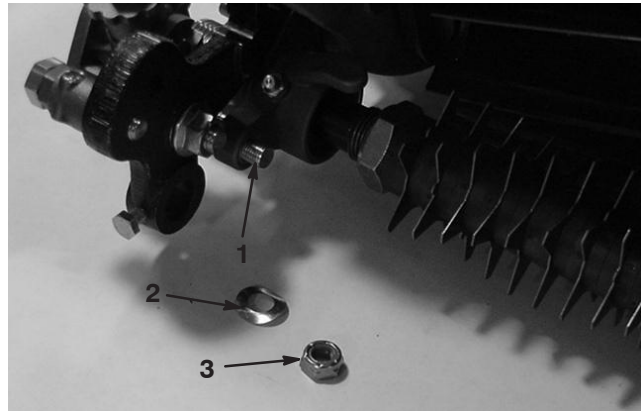

Figure 36
4. Remove the locknut and spring washer securing the height-of-cut arm assembly rod end to the groomer drive assembly (Fig. 36).